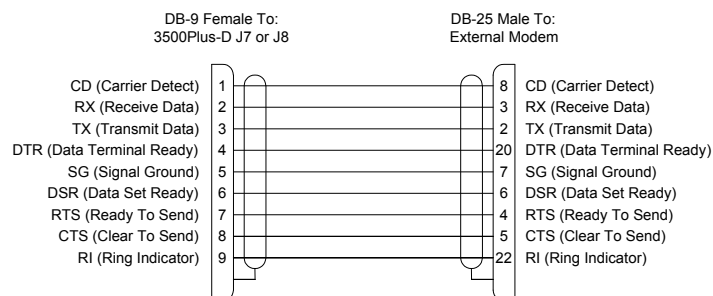

Figure 49. 3500Pro-D RS-232 CPU Link (AT Serial Modem) Cable
- COM 1 may also be connected to an external modem using an AT Serial Modem cable (Part No. 81-9028-0400-0). If necessary, a cable up to 50 feet in length may be fabricated in the field as shown in Figure 49.